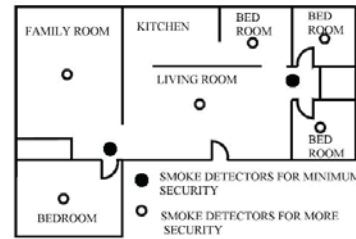

FIGURE 2
1. Install a detector in the hallway outside every separate bedroom area as shown in FIGURE 1. Two detectors are required in homes with two bedroom areas as shown in FIGURE 2.